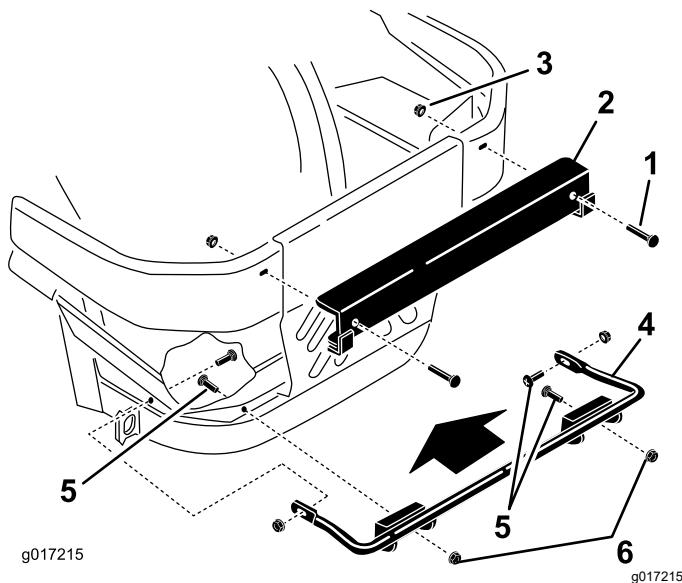

Figure 6
1. Install the lower mounting bracket to the machine frame with 4 carriage bolts (3/8 x 1-1/4 inches) and 4 flange nuts (large flange-3/8 inch) as shown in Figure 6.
2. Install the upper mounting bracket to the left and right bumpers with 2 carriage bolts (1/2 x 2-1/2 inches) and 2 flange nuts (1/2 inch) as shown in Figure 6.